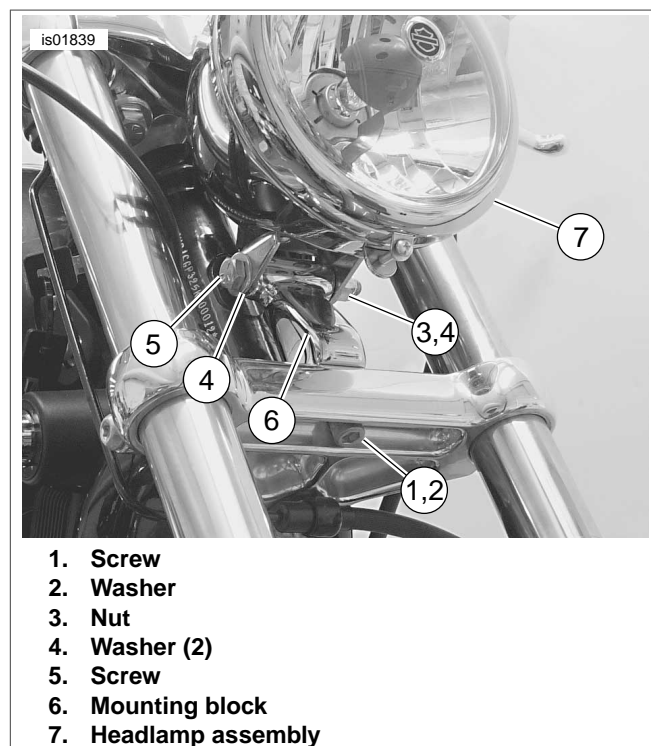

Figure 6. Sportster Headlamp Assembly with Mount
5. See Figure 6. Remove screw (1) and washer (2) from stem and bracket. Save screw and washer for later use.
6. Remove and discard nut (3), washers (4), and screw (5).
7. Remove and discard mounting block (6) and headlamp assembly (7).